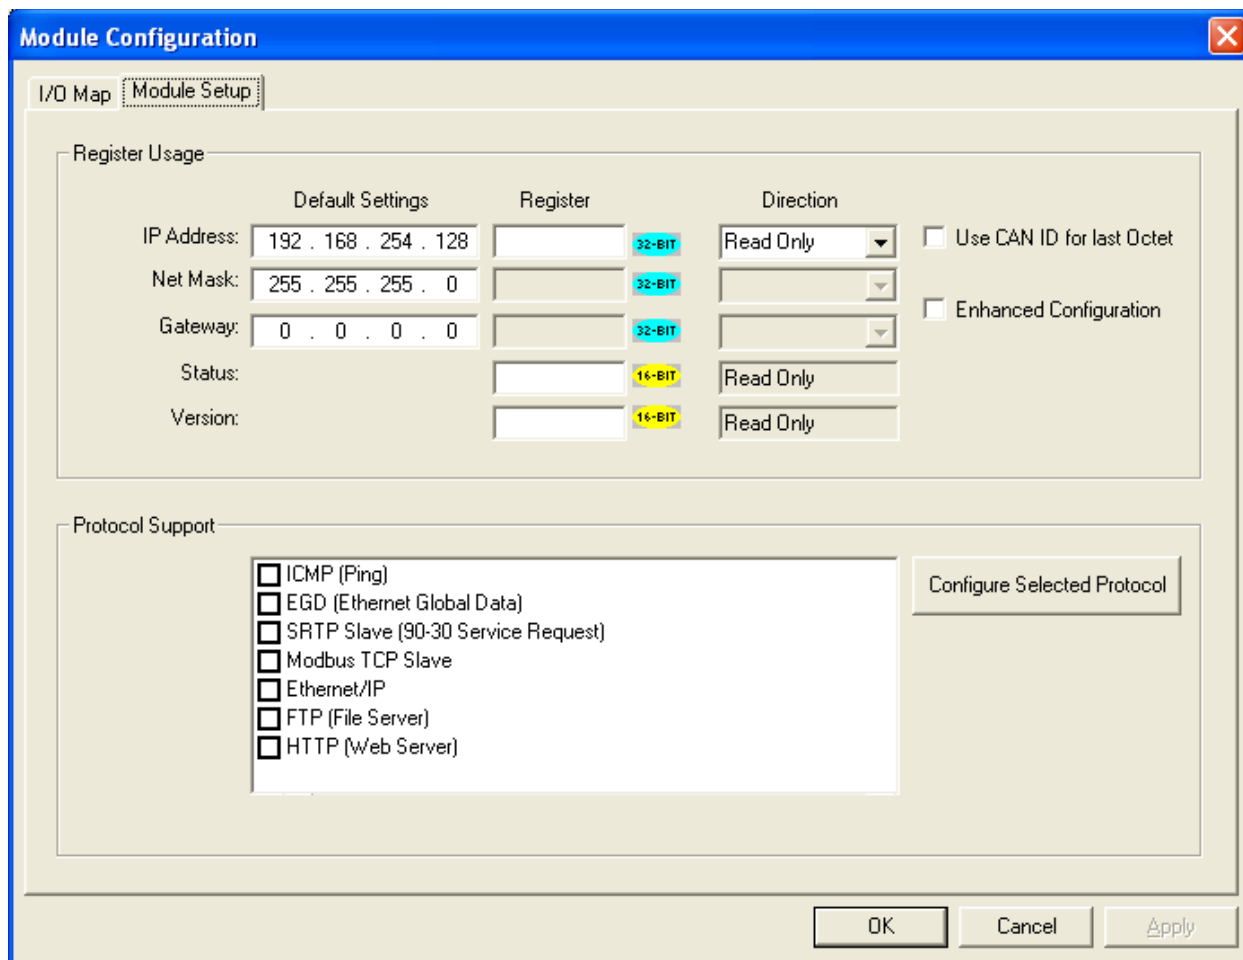

Figure 7.2 – Ethernet Module Configuration
3. Click the **Config** button to the right of the Ethernet Module, and then select the Module Setup tab, revealing the Ethernet Module Configuration dialog as shown in figure 7.2